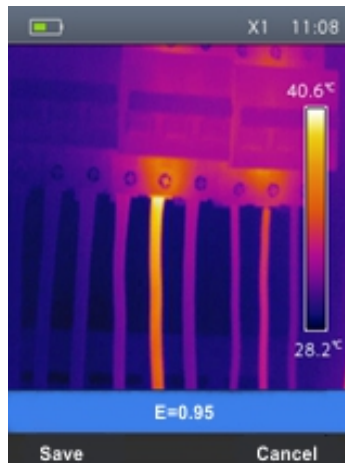

Fig. 24: Saving the image on the display
3. Press the **T** (Trigger) key to freeze the image shown on the display (see Fig. 24).